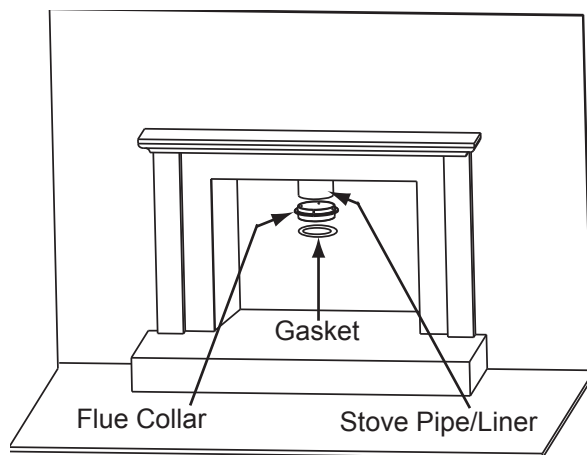

Figure 17.1
1. There are 4 pre-drilled holes in the flue collar 90 degrees apart. Attach the flue collar to the stove pipe/liner. If the seal is questionable use high temperature sealant such as stove mastic **Figure 17.1**.